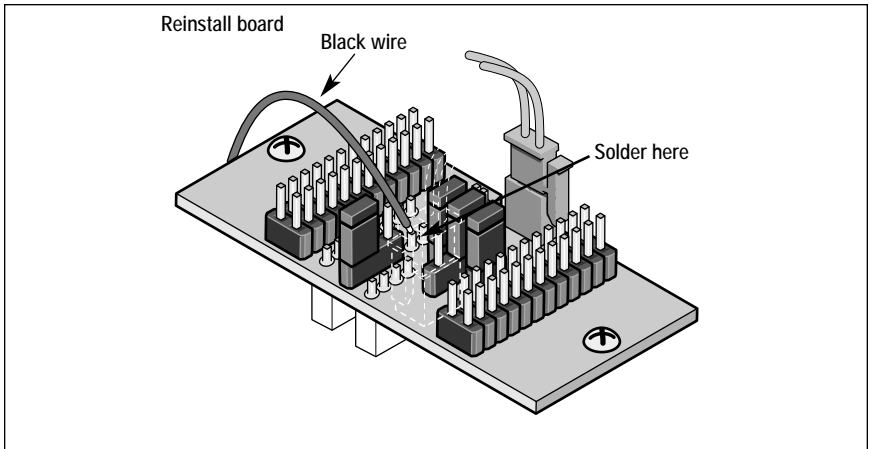

Figure 6. Soldering the black wire under the J-5 connector
5. Solder the black wire that you removed in Step 3 to the #1 pin on the bottom of the J-5 connector (the connector itself is on the underside of the board). The #1 pin is immediately to the right of the J-6 jumper. Refer to Figure 6 for the location of this solder point.